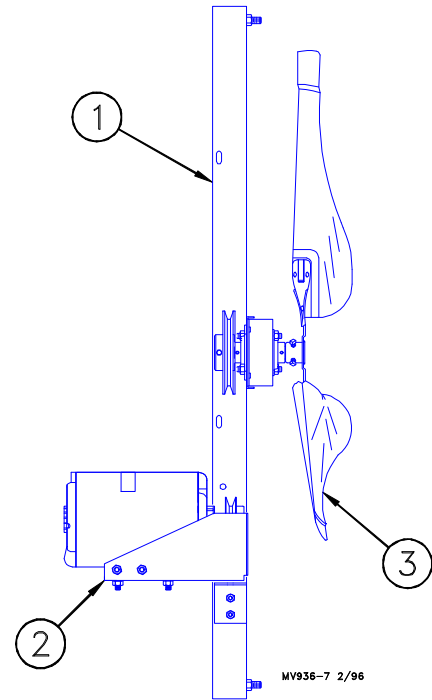

Figure 1. Fan Assembly (front view).
1. Remove the Motor Mount Assembly from the Fan Post by loosening the (4) 3/8-16 x 3/4" bolts. Do not discard the hardware.
3. Align the Motor Mount Assembly with the third and fourth holes from the bottom of the Fan Post. See Figure 1.